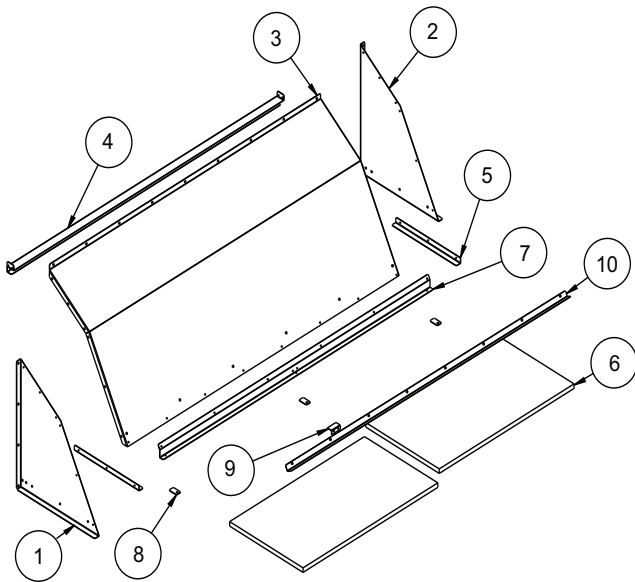

Fig. 37 — Hood Assembly
4. Assemble hoods (see Fig. 37).